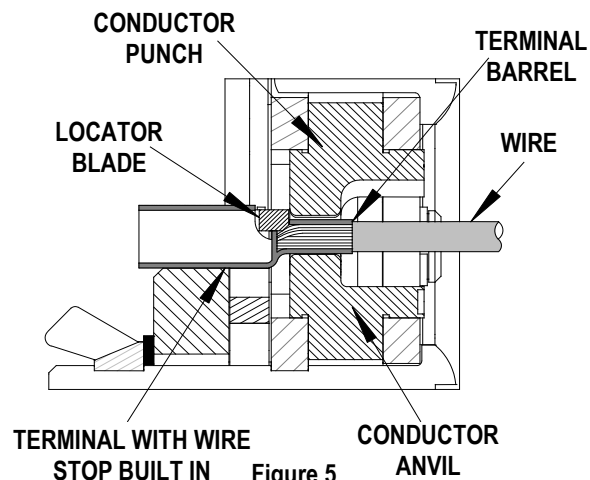

Figure 5
4. Insert the properly stripped wire into the terminal barrel. See Figure 5. The wires end should stop against the locator blade. Cycle the tool.